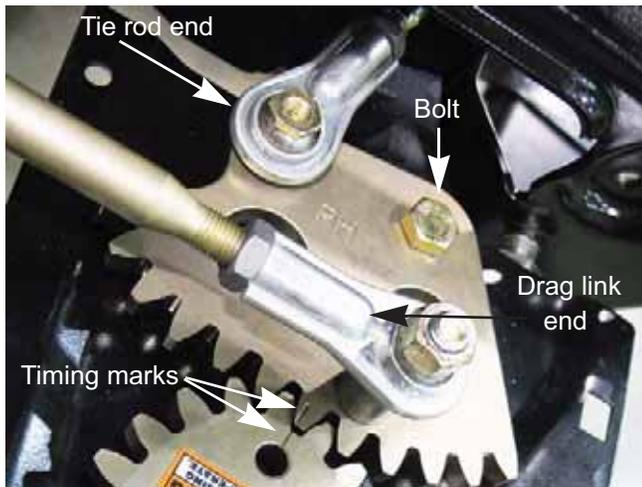

Figure 6B.85
3. Remove and discard the nut holding the drag link to the inboard steering gear using two 9/16" wrenches (one of them should be a slim-line wrench). See Figure 6B.85.